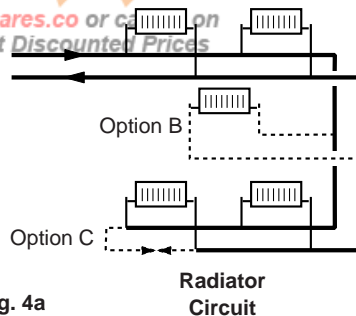
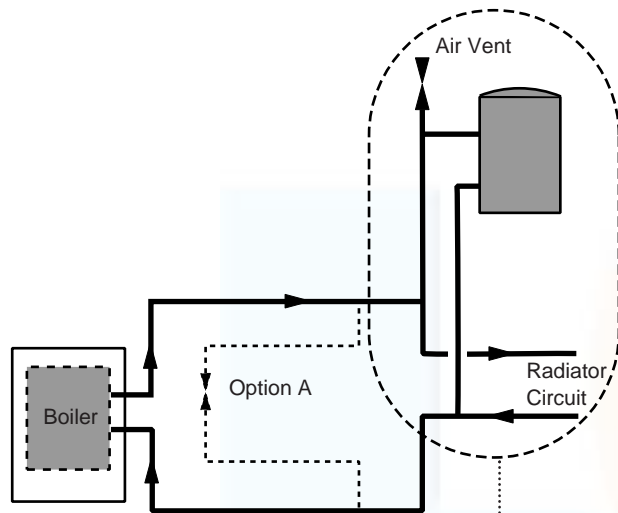

Fig. 4a
Fig. 4b Fully Pumped System
NOTE: For 'S' Plan systems the bypass flow circuit must be situated between pump and zone valves as option A shows (Fig. 4b).
- a) For all boilers a minimum of 6 metres of 22mm copper pipe, (measured between the boiler flow and return connections). It should be fitted with a lock shield valve opened at least 1 full turn or a proprietary bypass valve set to give a minimum flow rate of 8 litres/min (1.8 gal/min) (Option C, Fig. 4a & Option A, Fig. 4b).
- b) A radiator fitted with lock shield valves. The radiator output should be a minimum of 800 watts (2,700 Btu/h). Typically a convector type radiator with an area of 3750 cm² (4 sq ft) is adequate (Option B, Fig. 4a).
- c) Any circuit that provides the same operating conditions as option A or option B (Figs. 4a & 4b).